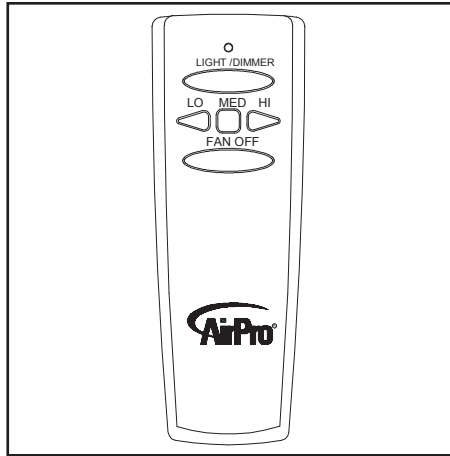

Figure 19
**Remote Control** - Your fan is equipped with a remote control to operate the speed and lights (Figure 19).